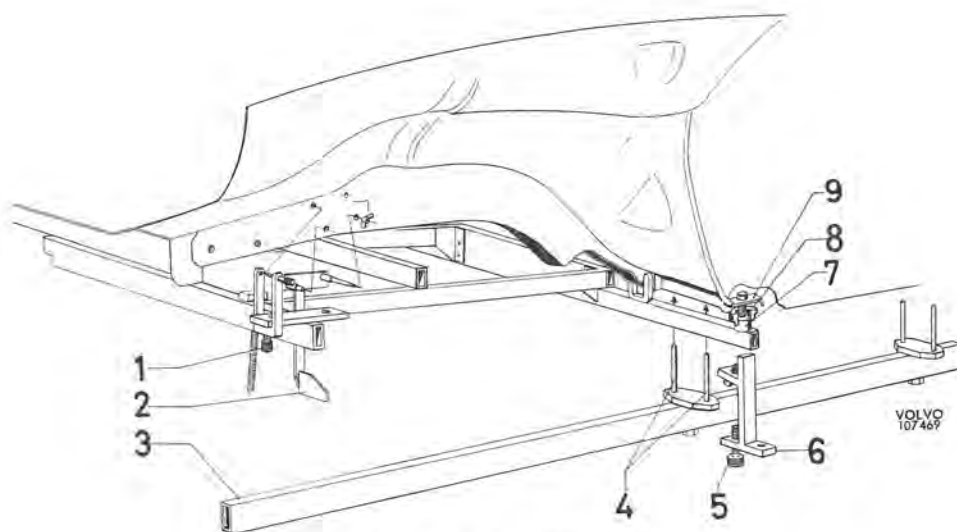

Fig. 8-7. Tool for front side-members
1. Set up the fixture 2777. The rear guide pins with the guides 5001 and 5002 (8, Fig. 8-7) fit in the holes in the floor plating and are held in position by clasps (9).